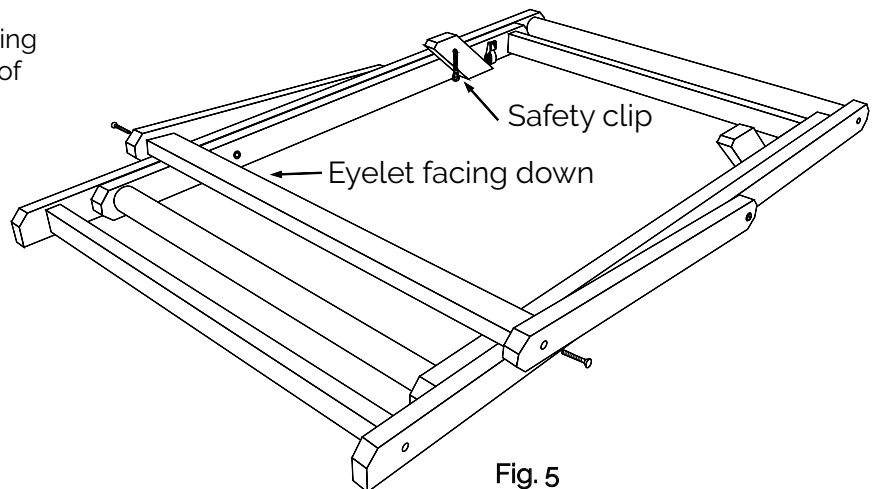

Fig. 5
13. Position **Prop Brace C** so the eyelet is facing down and on the same side as the safety clip, see **Fig. 5**.